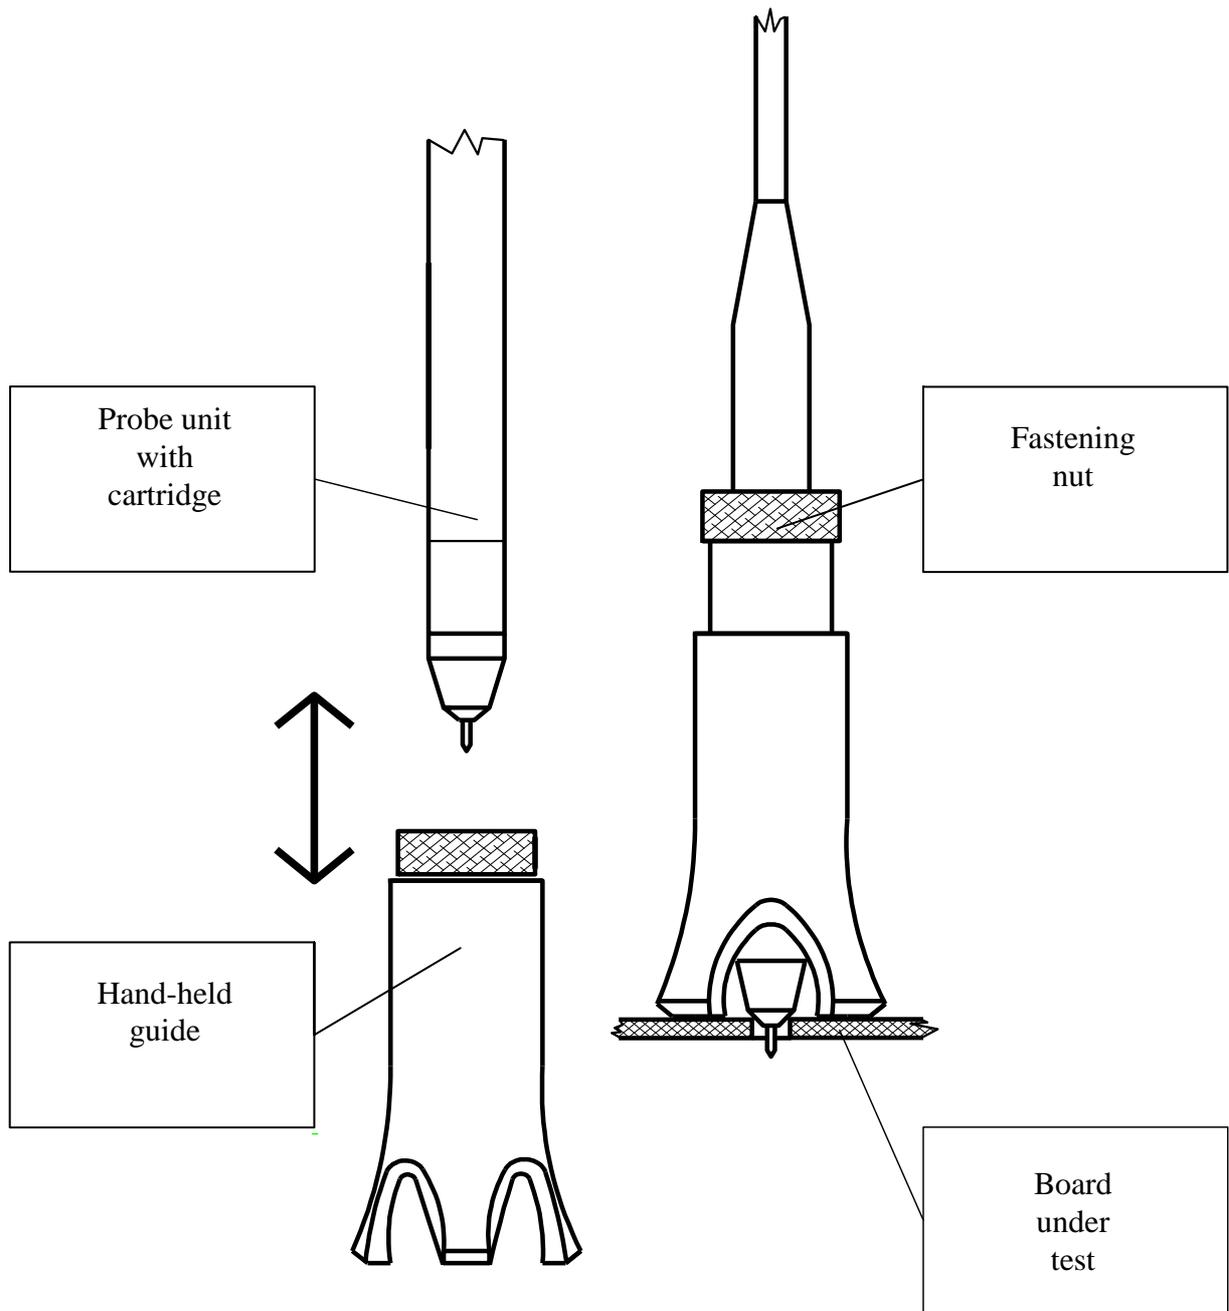

Fig. 10. Hand-held guide application
1. Put the movable part of the guide up to the stop and hold it in this position (see Fig. 10).